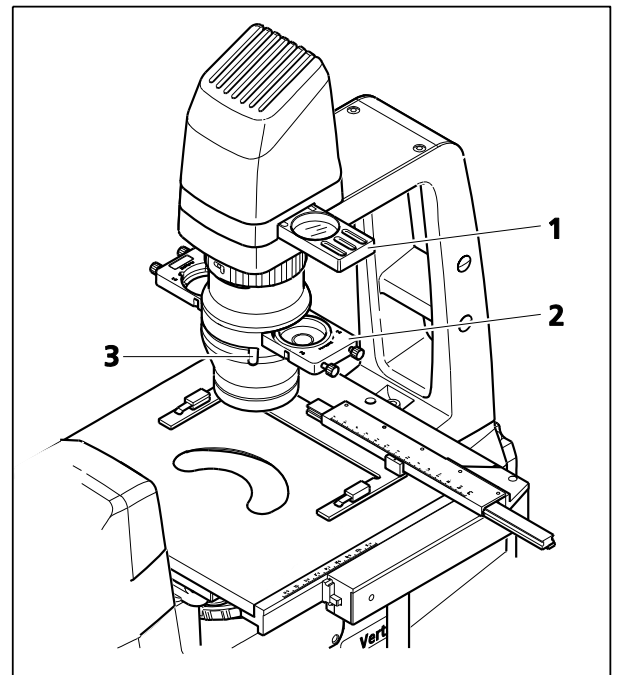

Fig. 4-3 Setting Bright Field
- Move the center position on the slider (Fig. 4-3/2) of the condenser or the position for bright field on the condenser with modulator disk into the light path.
- Use the lever (Fig. 4-3/3) or the setting wheel to close the aperture diaphragm until optimum contrast is obtained.
- If required, adjust illumination intensity by turning the **on/off** control button or inserting the attenuation filter into the filter slider (Fig. 4-3/1) and moving it into the light path.